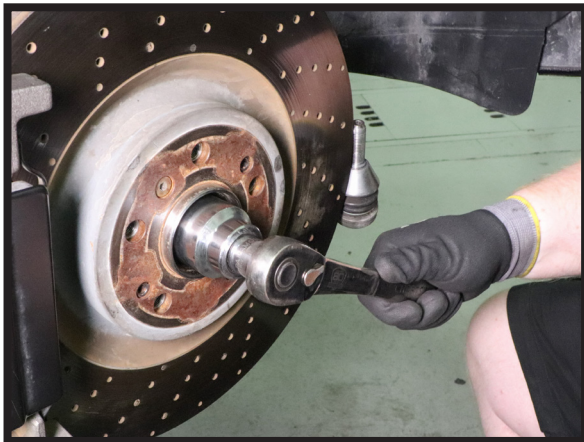

FIGURE 12
11. REMOVE AXLE NUT. (FIGURES 12, 13)